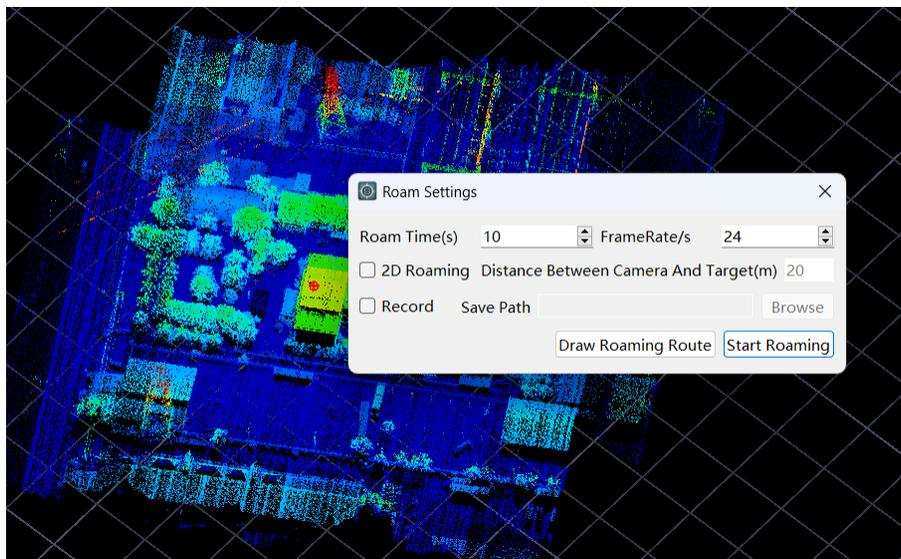

Figure 3-34 Select roaming path
- (2) Set the time and frame rate, choose whether to record the screen and the path to save the video, click <Draw Roaming Route>, and then click the left mouse button in the view to select the roaming path node (Figure 3-34).